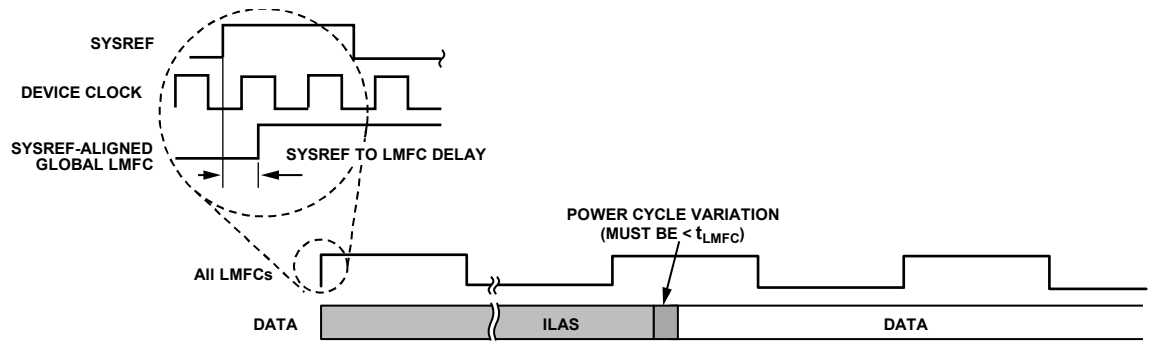

Figure 104. SYSREF and LMFC
The JESD204B protocol organizes data samples into octets, frames, and multiframe as described in the Transport Layer section. The LMFC is synchronous with the beginnings of these multiframe. In Subclass 1 operation, the SYSREF is used to synchronize the LMFCs for each device in a link or across multiple links (within the AD6688, SYSREF also synchronizes the internal sample dividers), as shown in Figure 104. The JESD204B receiver uses the multiframe boundaries and buffering to achieve consistent latency across lanes (or even multiple devices), and also to achieve a fixed latency between power cycles and link reset conditions.
- The total latency variation across all lanes, links, and devices must be  $\leq 1$  LMFC periods (see Figure 104). This includes both variable delays and the variation in fixed delays from lane to lane, link to link, and device to device in the system.